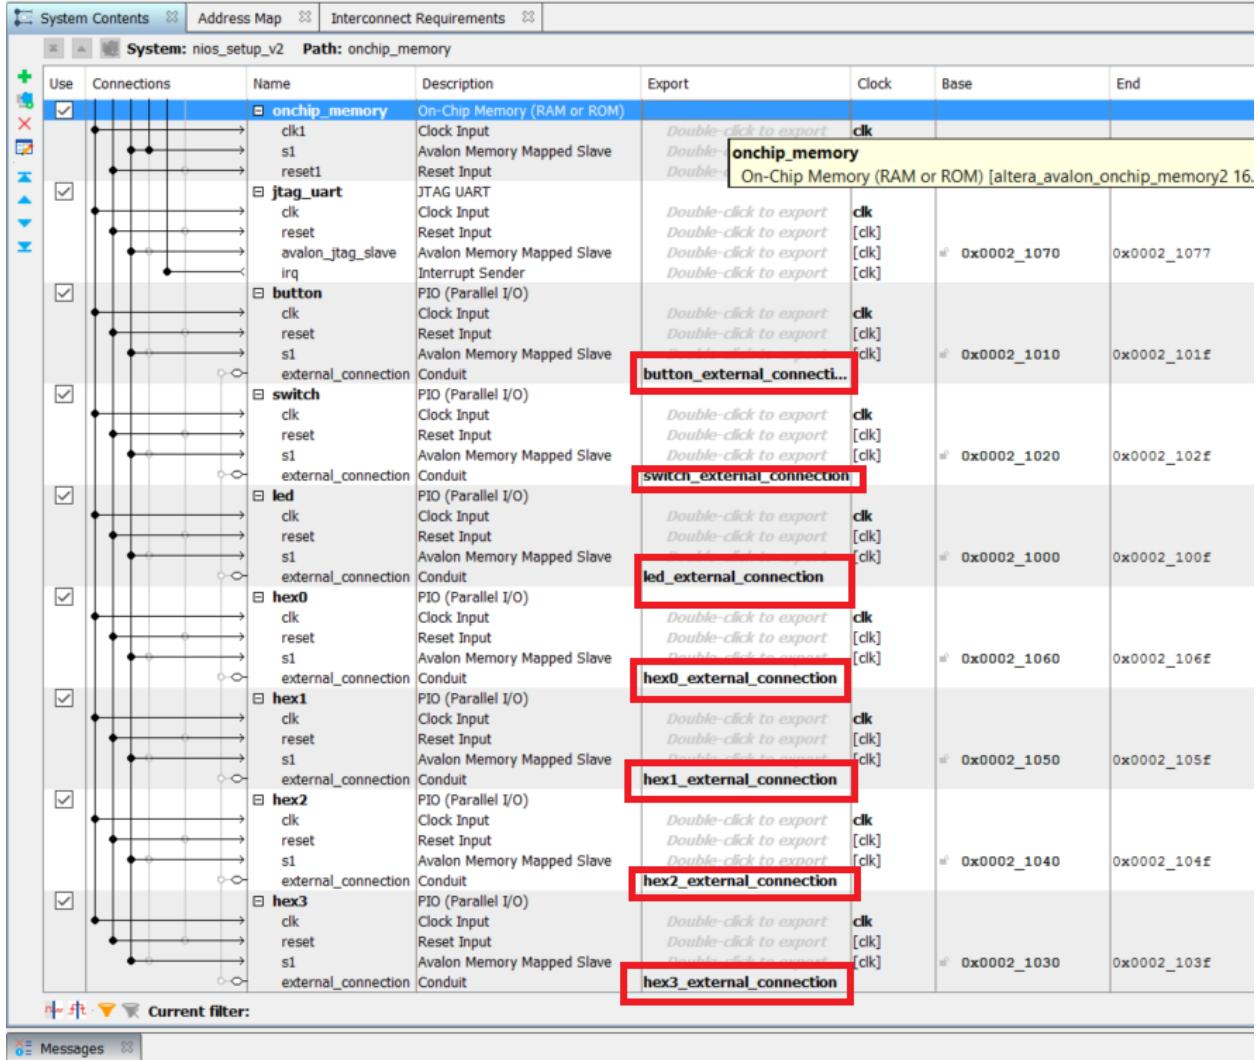

Figure 23: System Contents after Exporting PIO Switch and LED
16. Double click on the *button*, *switch*, *led*, and *hex0-hex5* conduit items under the export column circled in Figure 23 on the following page. This will bring these ports out of the Qsys component to connect to the top-level design.